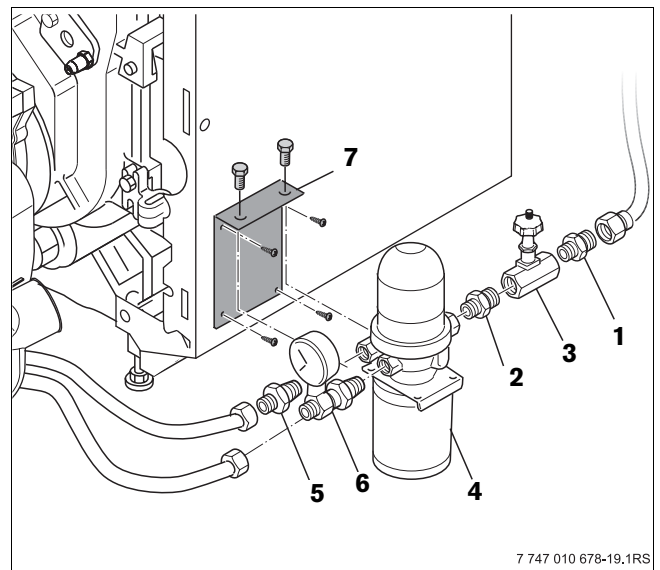

Fig. 21 Tiger loop oil filter
- Drill 4 holes in the jacket panel using the Tigerloop mounting bracket (Fig. 21, [7]) as a template.